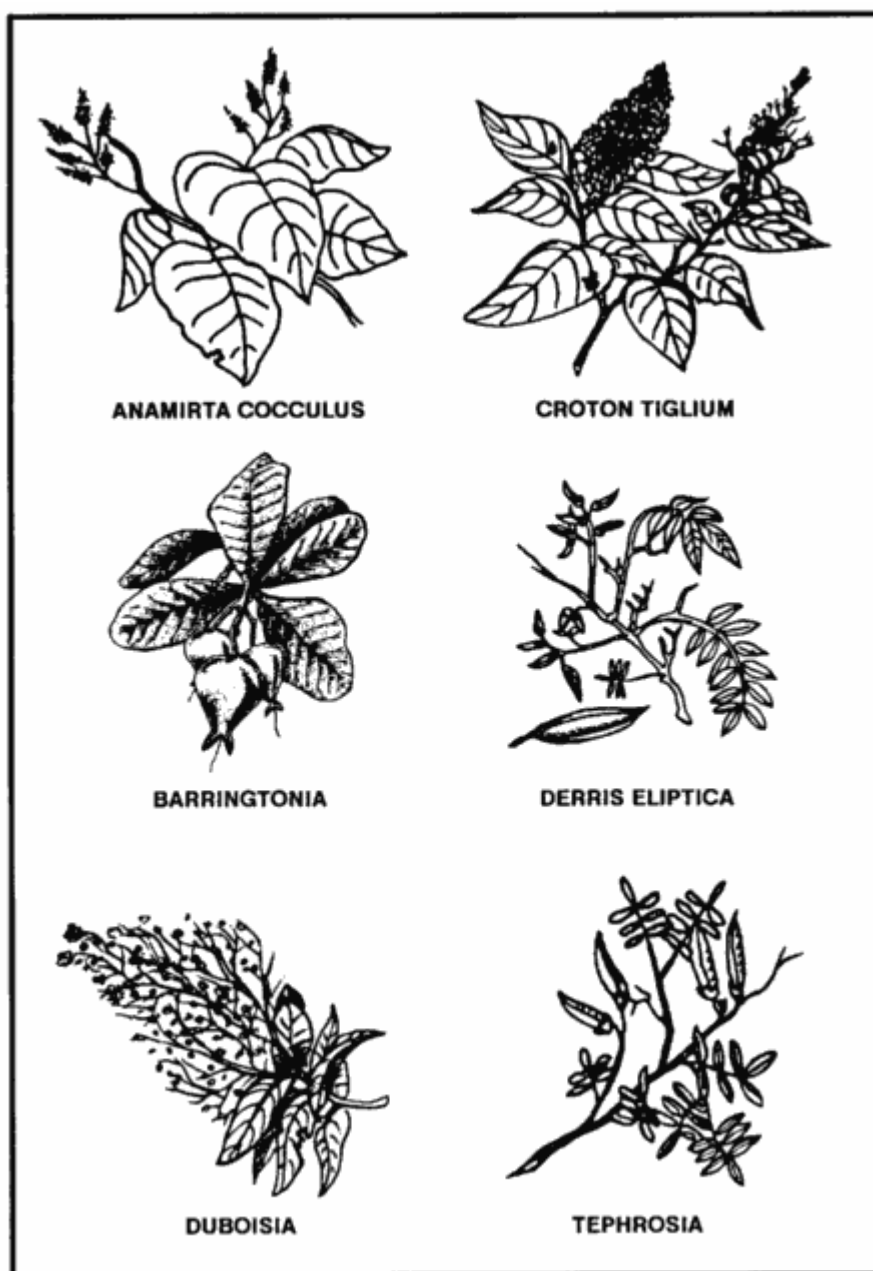

Figure 8-23. Fish-poisoning plants.
- *Anamirta cocculus* (Figure 8-23). This woody vine grows in southern Asia and on islands of the South Pacific. Crush the bean-shaped seeds and throw them in the water.
- *Croton tiglium* (Figure 8-23). This shrub or small tree grows in waste areas on islands of the South Pacific. It bears seeds in three angled capsules. Crush the seeds and throw them into the water.
- *Barringtonia* (Figure 8-23). These large trees grow near the sea in Malaya and parts of Polynesia. They bear a fleshy one-seeded fruit. Crush the seeds and bark and throw into the water.
- *Derris eliptica* (Figure 8-23). This large genus of tropical shrubs and woody vines is the main source of commercially produced rotenone. Grind the roots into a powder and mix with water. Throw a large quantity of the mixture into the water.
- *Duboisia* (Figure 8-23). This shrub grows in Australia and bears white clusters of flowers and berrylike fruit. Crush the plants and throw them into the water.
- *Tephrosia* (Figure 8-23). This species of small shrubs, which bears beanlike pods, grows throughout the tropics. Crush or bruise bundles of leaves and stems and throw them into the water.